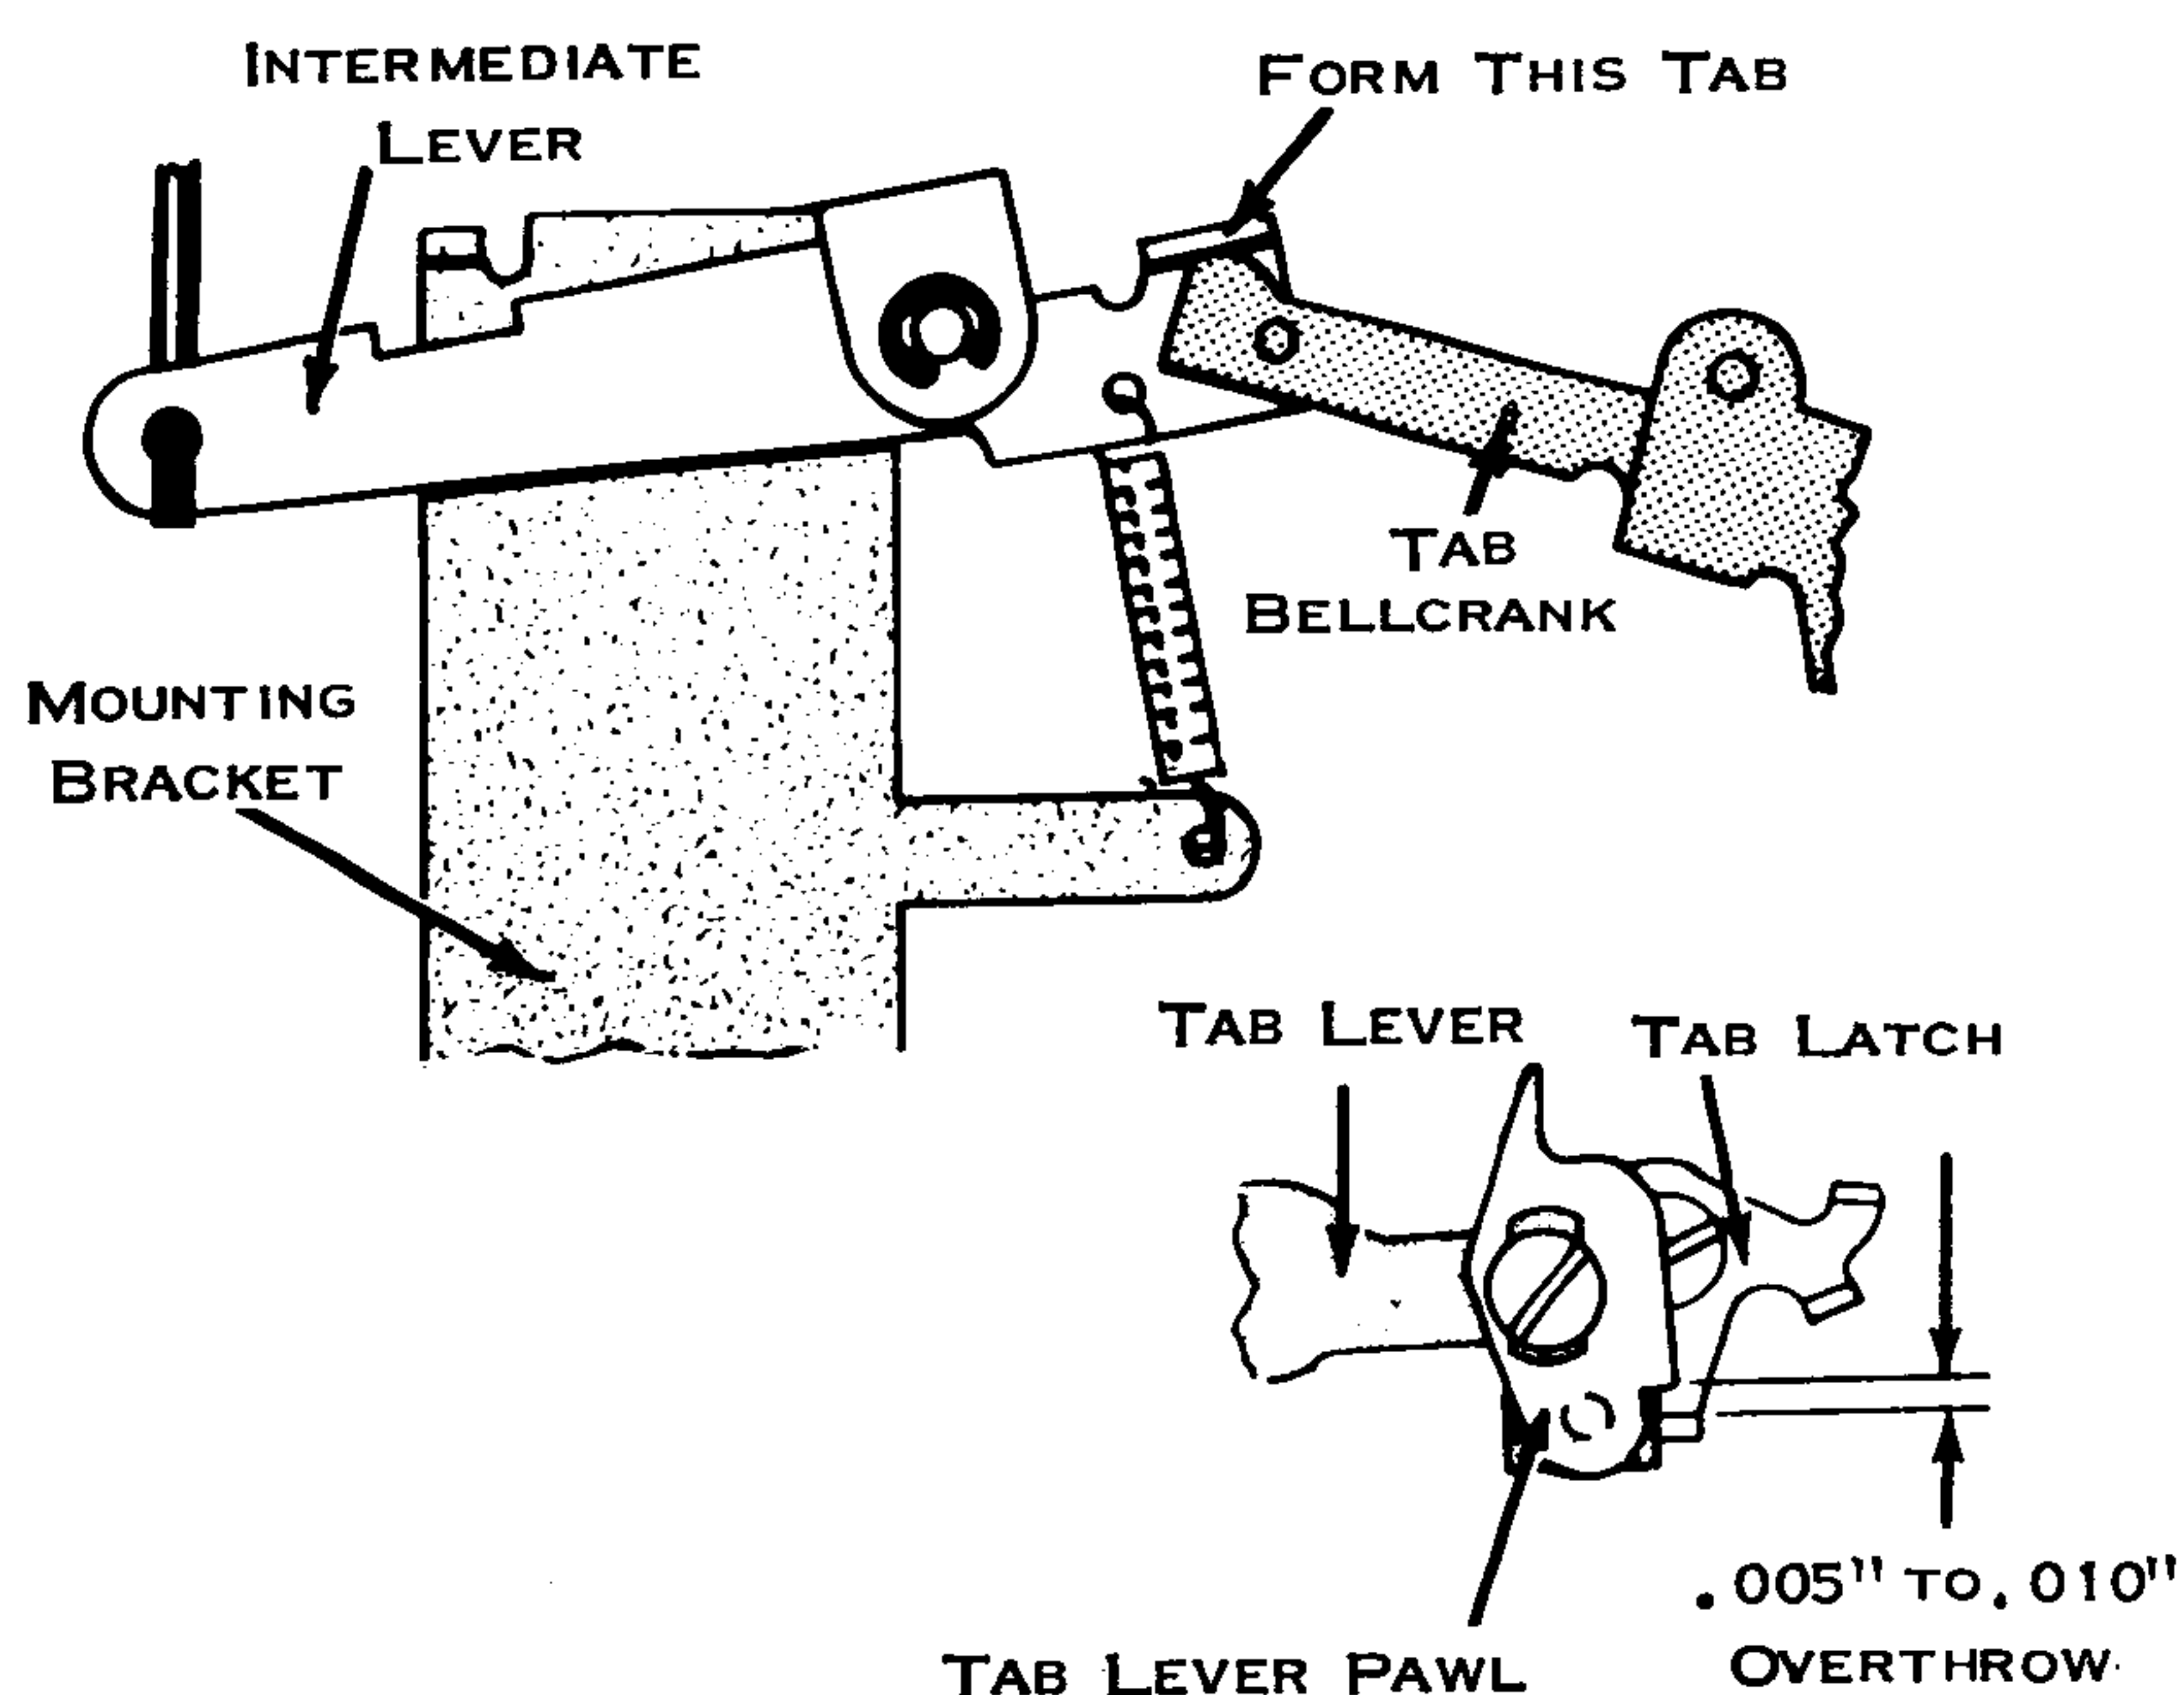

Figure 170. Intermediate Lever Tab
7. Intermediate Lever Tab, 15" Machine (Fig. 170) - With the tab interposer released and the backspace cam on its high point, form the intermediate lever tab so that the tab lever pawl overthrows the tab latch by .005" to .010".